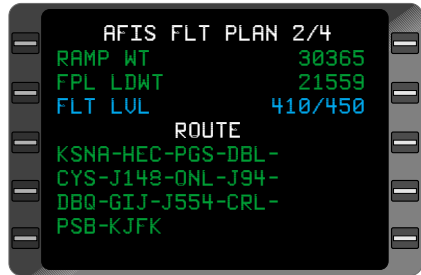

Figure 7-10
**RAMP WT:** Planned ramp weight in lbs prior to starting engines as transferred from disk or received via the data link. (Figure 7-10)